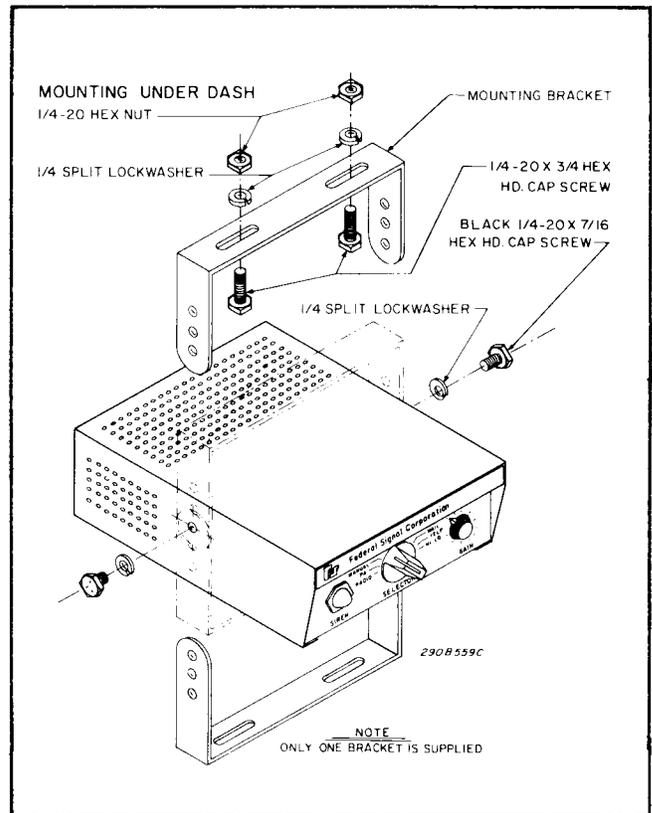

Figure 2. Installation of PA 200 Under Dash.
The unit should be mounted in a position that is both comfortable and convenient to the operator. Keep visibility and accessibility of controls in mind. To install the unit under the dash, determine the mounting location and proceed as follows (see figure 2):
C. Secure the mounting bracket to the dash with (2 each) $\frac{1}{4}$ -20 x $\frac{3}{4}$ hex. head screws, $\frac{1}{4}$ split lockwashers and $\frac{1}{4}$ -20 hex. nuts as shown in figure 2.